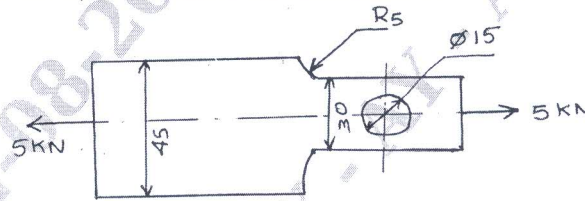

Fig.Q7(b)
- b. A flat plate subjected to a tensile force of 5 kN is shown in Fig.Q7(b). The plate material is grey cast iron ( $\sigma_u = 200$  MPa). Determine the thickness of the plate. Factor of safety is 2.5.